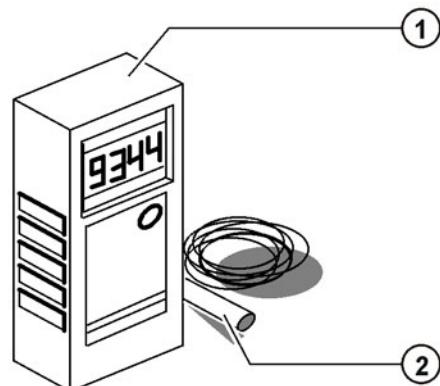

Fig. 10-3: Belt tension measuring device
5. Switch on the belt tension measuring device (**>>>** Fig. 10-3).